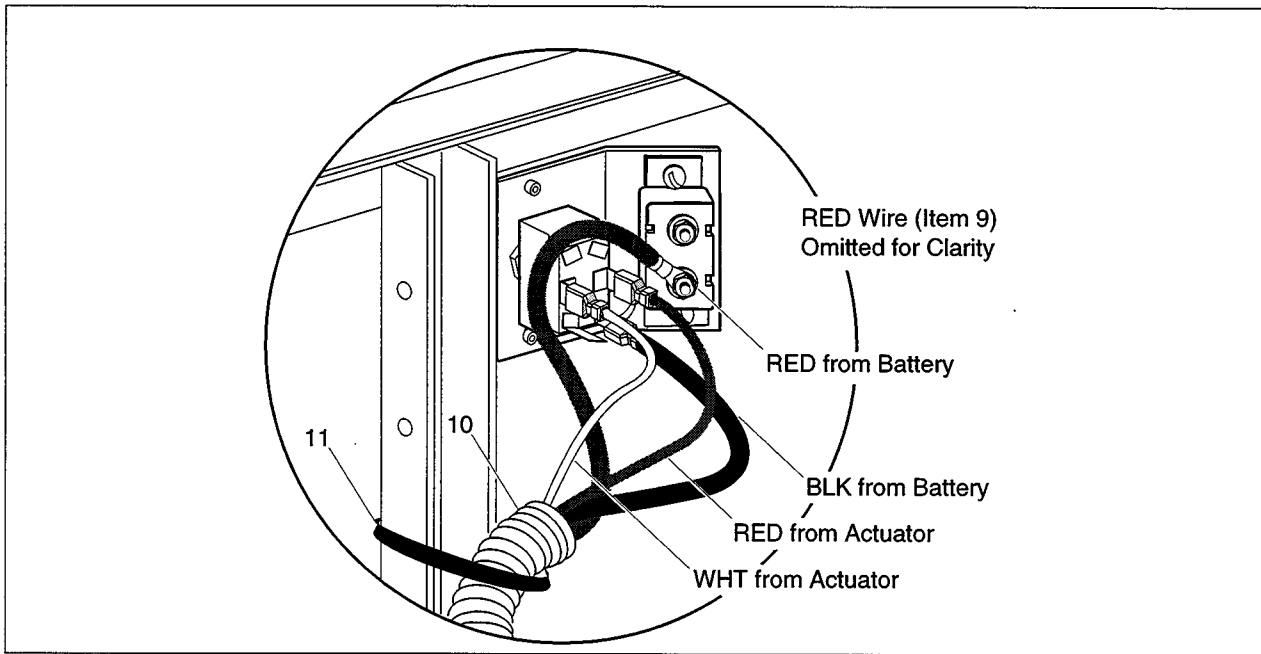

Fig. 6 Toggle Switch Wiring
C. WIRING THE TOGGLE SWITCH (See Fig. 6)